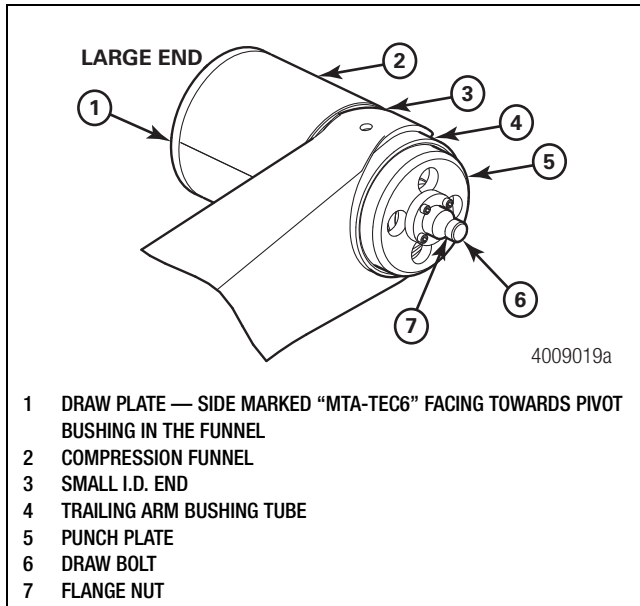
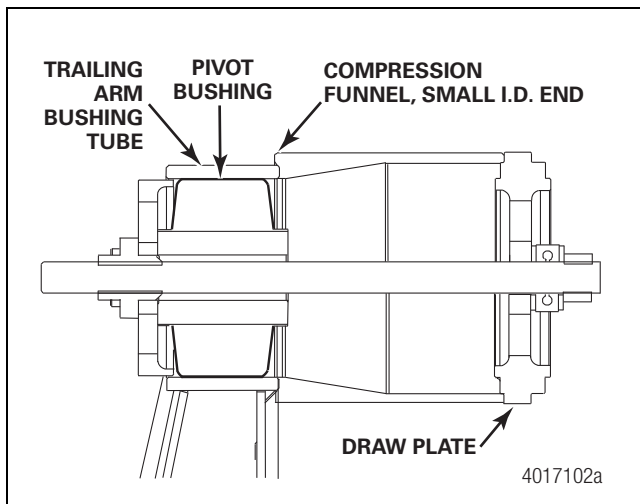

Figure 6.8
Figure 6.9
8. Apply a light coat of the lubricant to the inside diameter of the compression funnel. Place the smaller I.D. end of the compression funnel onto the trailing arm bushing tube. Figure 6.8.
10. Align the small I.D. end of the compression funnel against the trailing arm bushing tube, insert the draw bolt, washers and thrust bearing through the draw plate and the pivot bushing sleeve. Figure 6.8 and Figure 6.9.
11. Thread the punch plate onto the draw bolt until it rests against the bushing to be removed. Figure 6.8.